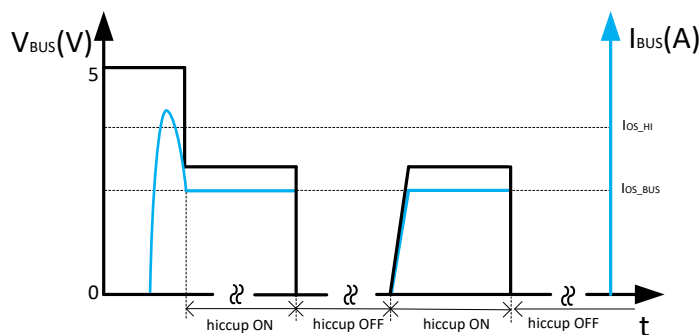

FIG 10-7. BUS Overcurrent Protection: Two-Level Current Limit
- The third condition is the load current increases just over the I_{OS_HI} setting. In this case, the load current does not trigger the fast turnoff. The USB power switch current limit threshold is set back to the primary current limit, I_{OS_BUS} , immediately. If the load still demands a current greater than I_{OS_BUS} , the USB output voltage decreases to $I_{OS_BUS} \times R_{LOAD}$ for a resistive load, which is shown in FIG 10-7. If the overcurrent limit condition lasts longer than 4.1 ms, the corresponding USB channel enters hiccup mode with 524 ms of off-time and 4.1 ms of on-time. Another USB channel still works normally.